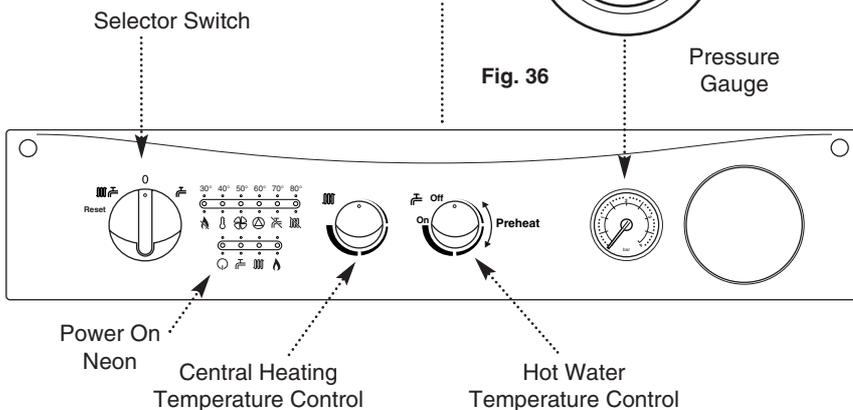

Fig. 37
2. Set the temperature control to maximum and the selector switch to the OFF position (Fig. 37).
6. Turn the selector switch to the Central Heating and Domestic Hot Water position (中央). The power ON neon (Q) will illuminate (Fig. 37).